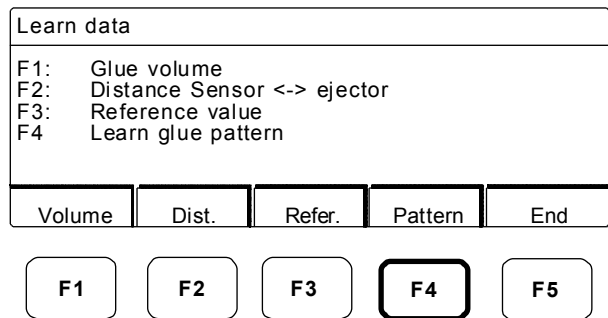
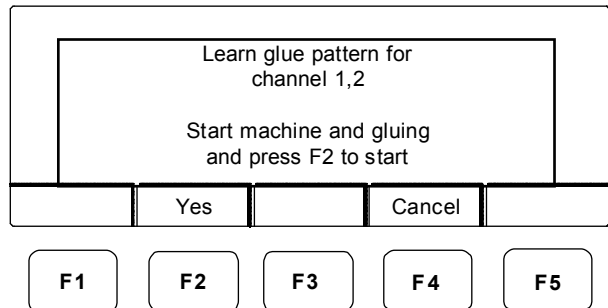

Figure 13-17. The Learn-Data Screen
Figure 13-18.
1. At the “Learn data” screen (Figure 13-17) press F4 (Pattern). The screen in Figure 13-18 displays.